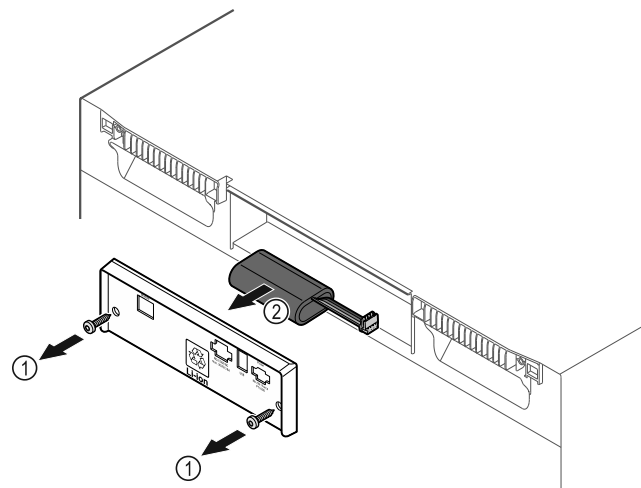

Fig. 200
- ▶ Unscrew screws and remove cover from the back of the appliance Fig. 200 (1).
- ▶ Disconnect and remove battery Fig. 200 (2).